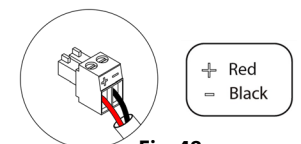

Fig. 48
The IR emitter is connected through a 2-pin terminal ①. Attach the wires with the terminal screws following the color code (Fig. 48).